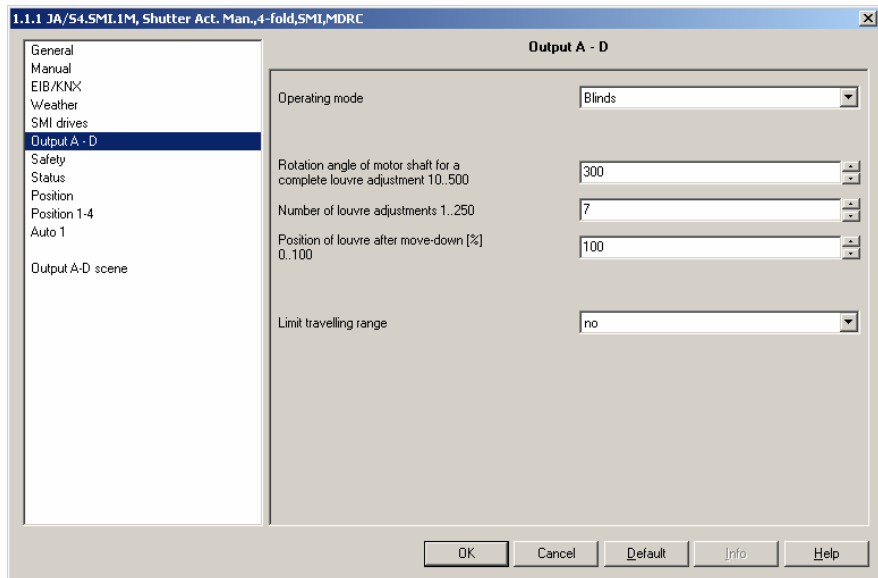

Fig. 9: Parameter window “Output A-D”
- For the maximum angle of rotation a value of 360° is initially assumed in the parameter *Rotation angle of motor shaft for a complete louvre adjustment* (see Fig. 9)
- The number of louvre settings in the parameter of the same name is set to 36. Thus, a resolution of 10° per louvre step results (see Fig. 9).
- The value of the parameter *Position of louvre after move-down [%] 0..100* must be set to be completed at 100% (default factory setting) (see Fig. 9).